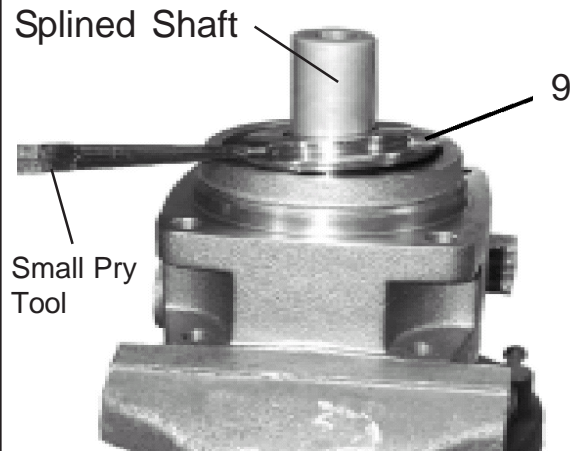

Figure 9
8. Remove Seal Carrier. Using small pry tool lift seal carrier (item 9) up and slide it off of shaft as shown in Figure 9.